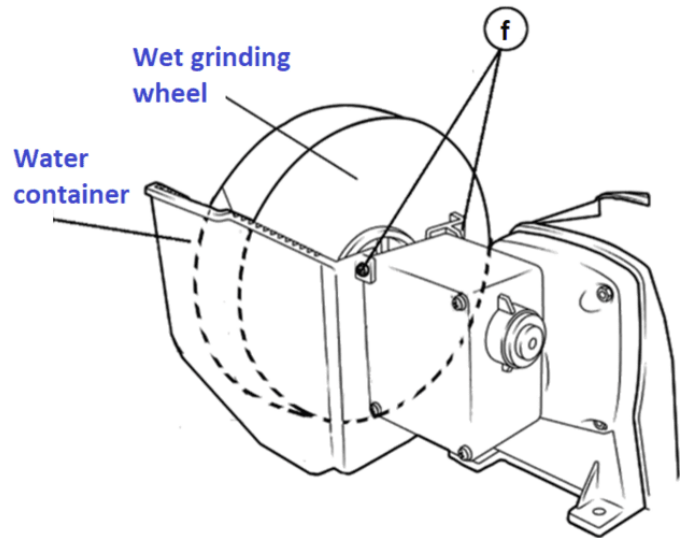

Fig. 5b
- Remove the water container from the machine by loosening the screws (f). See Fig. 5b.